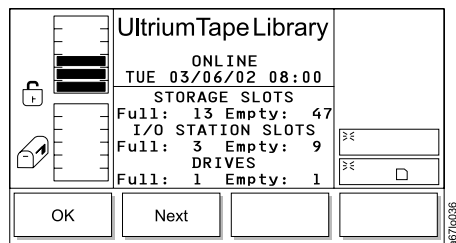

Figure 85. System Dialog
3. Press the button below the **System** softkey. The System Dialog displays (see Figure 85). The screen gives the quantity of full (occupied) and empty storage slots, I/O station slots, and drives.